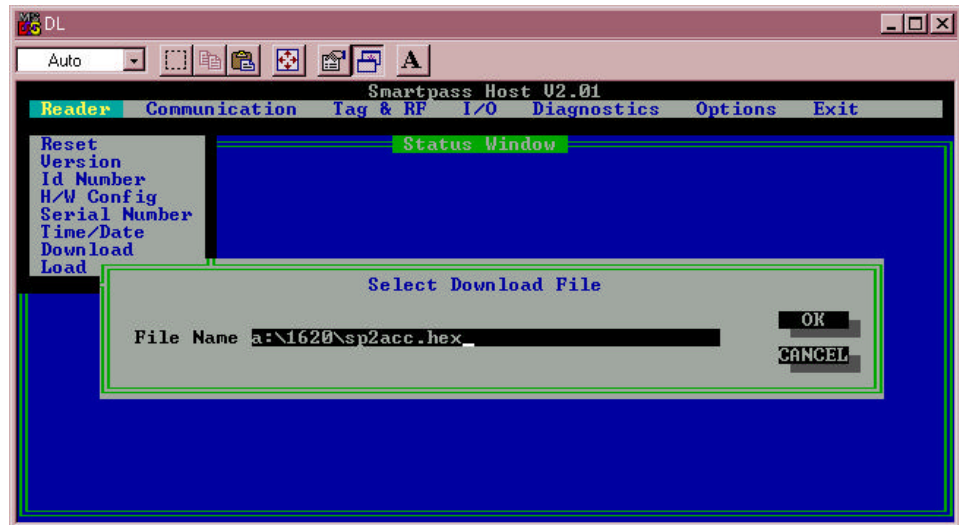

Figure 5-1 Download File Name Entry
4. Select the Reader drop-down menu and click on the Download command. This displays the Select Download File dialog box shown in Figure 5-1.
5. Type in the name of the download file as shown in Figure 5-1 and click the OK button.